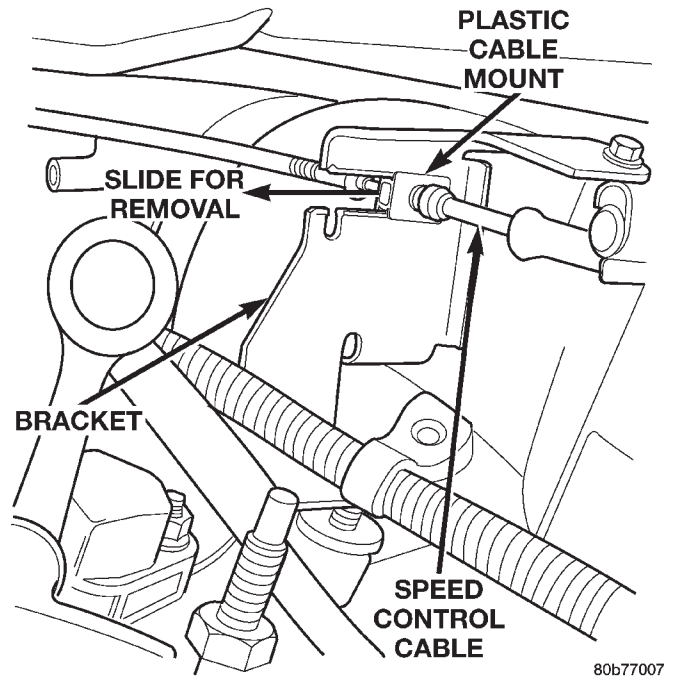

Fig. 7 Speed Control Cable at Bracket—4.7L V-8 Engine
- (7) Slide speed control cable plastic mount towards passenger side of vehicle to remove cable from bracket (Fig. 7).
- (8) Remove servo cable from servo. Refer to Speed Control Servo Removal/Installation in this group.